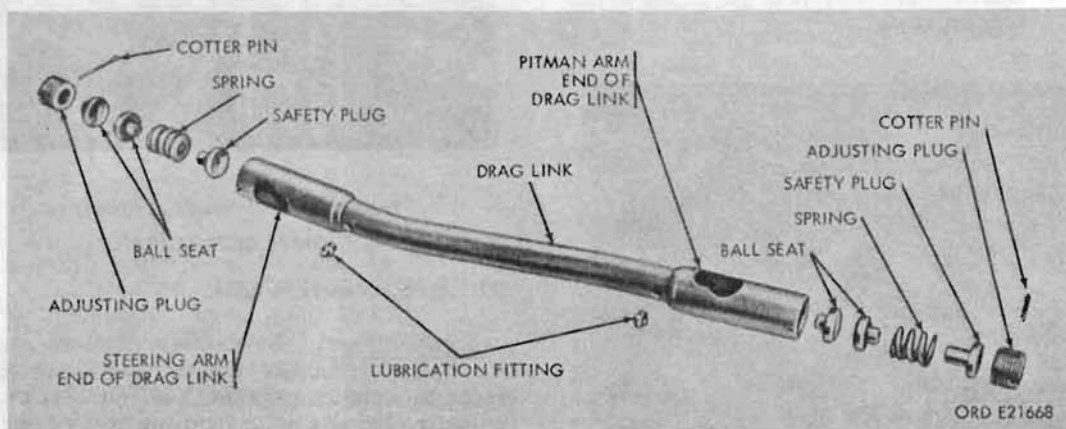

Figure 224. Drag link
e. Drag Link (Fig. 224). The drag link consists of the tubular member connecting the pitman arm to the steering arm on the front axle. The spring-loaded ball seats in each end of the link, are adjustable and engage the stud balls on the pitman arm and on the steering arm in the axle.
201. Drag Link (Fig. 224)
(fig. 224), install the safety plug in the steering arm end opening of the link with the small diameter of the plug facing the opening. Install the ball seat spring and one ball seat in the same end of the link. Install the drag link on the steering arm ball by pressing the link over the ball so that the ball enters the ball opening and mates with the cupped surface of the ball seat. Install the second ball seat in the end of the link and screw the adjusting plug into the link end to secure the ball in the link.
(4) Install one ball seat in the pitman arm end of the link with the cupped surface facing forward (fig. 224). Install the drag link over the pitman arm ball. Install the second ball seat in the link with the cupped surface mating to the ball. Install the ball seat spring, safety plug, and adjusting the plug in the drag link.
(5) Adjust the drag link (*a* above).